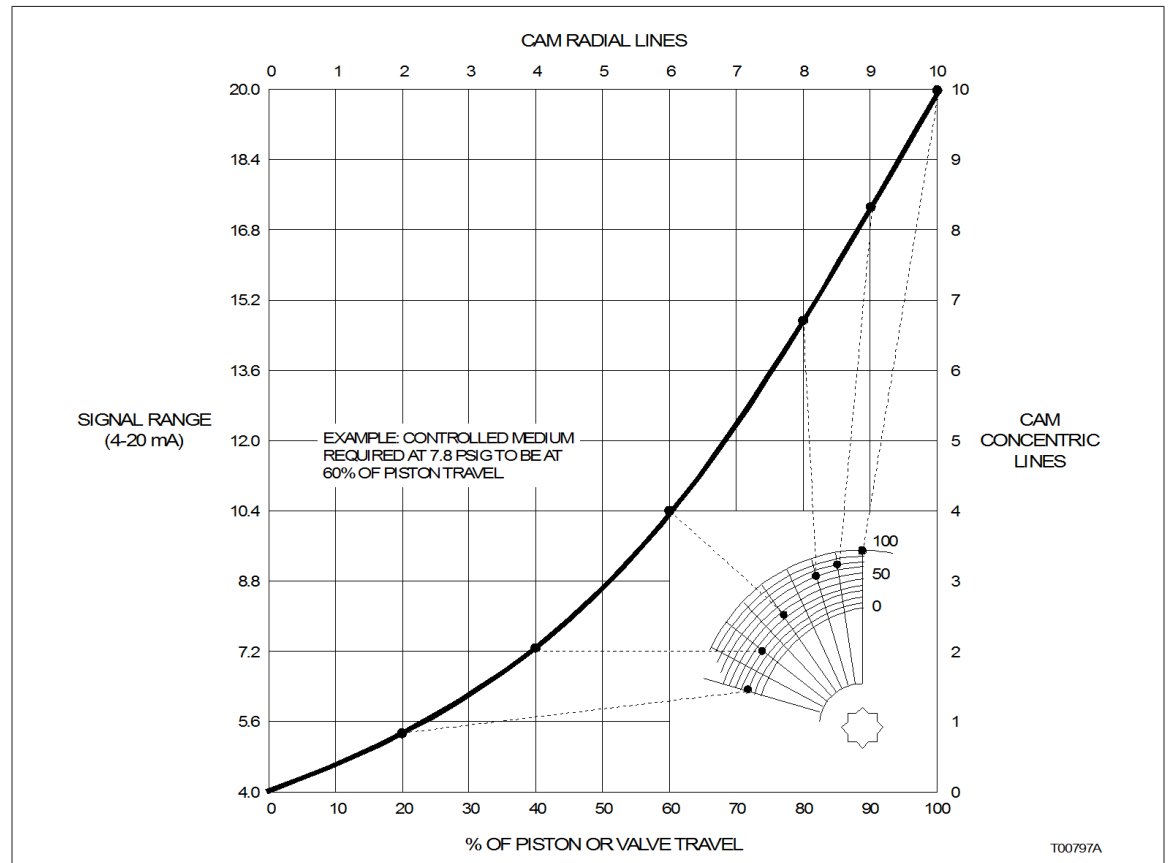

Figure C-7. Graph to Cam Data Transfer
2. Refer to Figure C-7 for the method of transferring data from the graph to the cam. For each radial line on the cam (representing a percent piston or valve travel), find the value of signal on the graph that corresponds to that percent piston or valve travel. Proceed along the radial line to the concentric arc that represents the signal pressure for the radial lines percentage piston or valve travel. Mark the cam at that point.
3. Continue in this manner until all the radial lines are marked with a signal pressure point. For example: In Figure C-7, the graph calls for a signal of 10.4 milliamps at 60-percent travel position. On the 60-percent travel radial line of the cam, a mark is placed on concentric line four, representing that pressure.